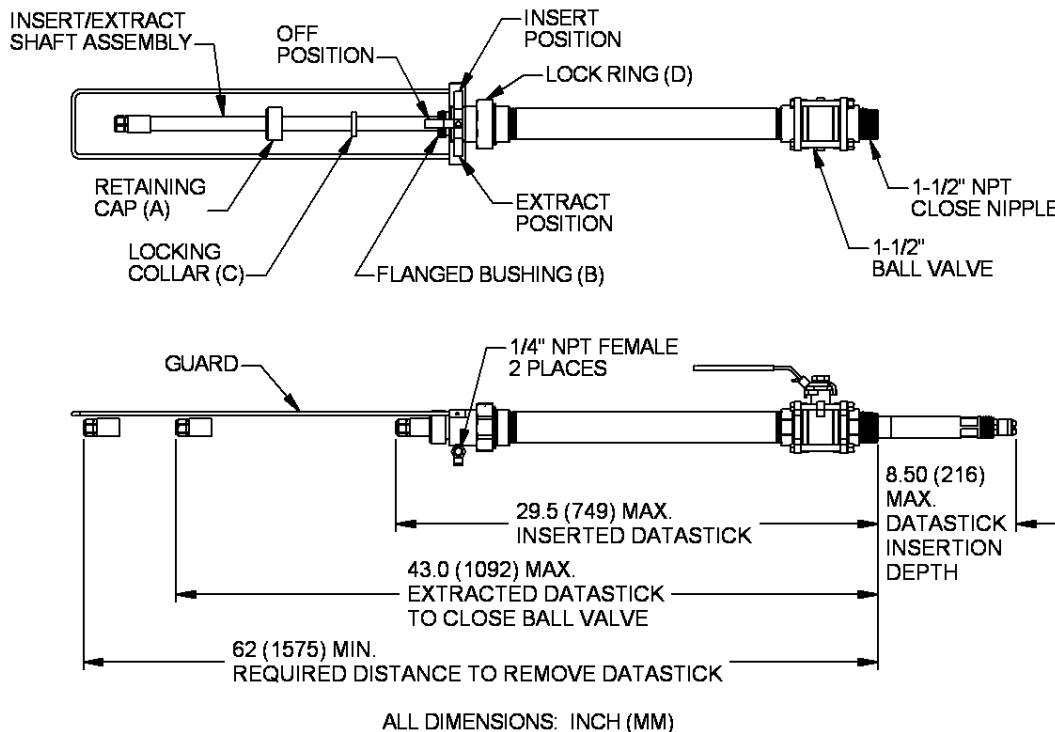

Figure 1 INSERTION MOUNTING HARDWARE (MH1112 shown)
If equipped remove the guard from its shipping position and reattach as shown in figure 1.
Unscrew the lock ring (item D figure 1) to remove the insert/extract shaft assembly.
Loosen the cord grip cap at the back of the insert/extract shaft assembly. Refer to figure 1 and route the DataStick Communications Adapter cable through the shaft assembly and out the cord grip.
The DataStick insertion depth is the distance the measuring surface of the sensor head extends beyond the threaded close nipple of the ball valve housing as shown in figure 1. It is factory set at the maximum distance 8.5 inches (216 mm). If the factory-set insertion depth is satisfactory for your application, disregard the following procedure, and mount the ball valve housing into the non-pressurized pipe or vessel. If you need to reduce the insertion depth, carefully determine and set it using this procedure before installing the hardware:
**WARNING: EXTRACTING THE DATASTICK FROM A PRESSURIZED PROCESS PIPE OR VESSEL MAY BE DANGEROUS. DO NOT STAND DIRECTLY BEHIND THE INSERTION ASSEMBLY WHEN REMOVING THE RETAINING CAP (ITEM A, FIGURE 1) TO EXTRACT THE DATASTICK. IT IS RECOMMENDED TO REDUCE THE PROCESS PRESSURE TO BELOW 10 PSI BEFORE EXTRACTING THE DATASTICK. IF THIS IS NOT POSSIBLE, USE EXTREME CAUTION. AT HIGHER PRESSURES, THE INSERT/EXTRACT SHAFT ASSEMBLY MAY TRAVEL RAPIDLY TO ITS MAXIMUM OUTWARD POSITION, POTENTIALLY INJURING ANYONE IN ITS PATH.**
Loosen and remove the retaining cap (item A figure 1).